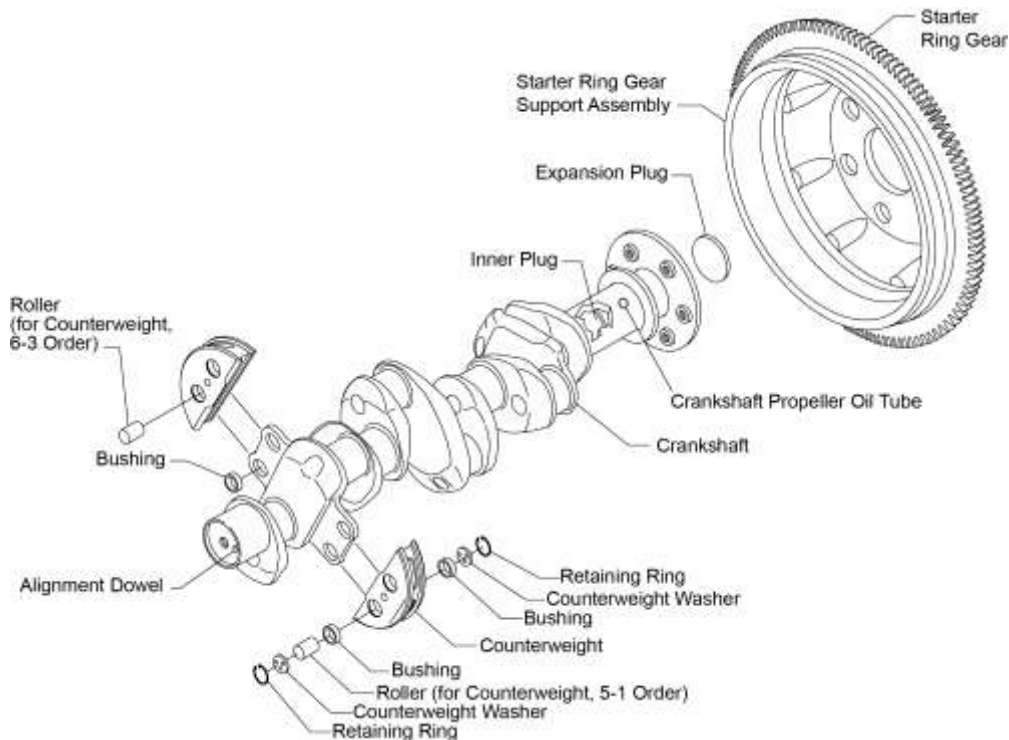

Figure 19
Do not remove the alignment dowel (Figure 19) from the end of the crankshaft unless it is damaged. Replace a damaged alignment dowel per the “Alignment Dowel Replacement” procedure in this chapter.
- (1) Use a suitable 1/2 in. to 3/4 in. diameter punch to press the center of the expansion plug (Figure 19) to a concave shape in the crankshaft.
- (2) Use a sharp tool to make a 1/8 in. to 3/16 in. hole in the center of the plug.
- (3) Use a hook or bent rod to pull out the plug.
- (4) Remove any little pieces of plug remnants. Discard the expansion plug.